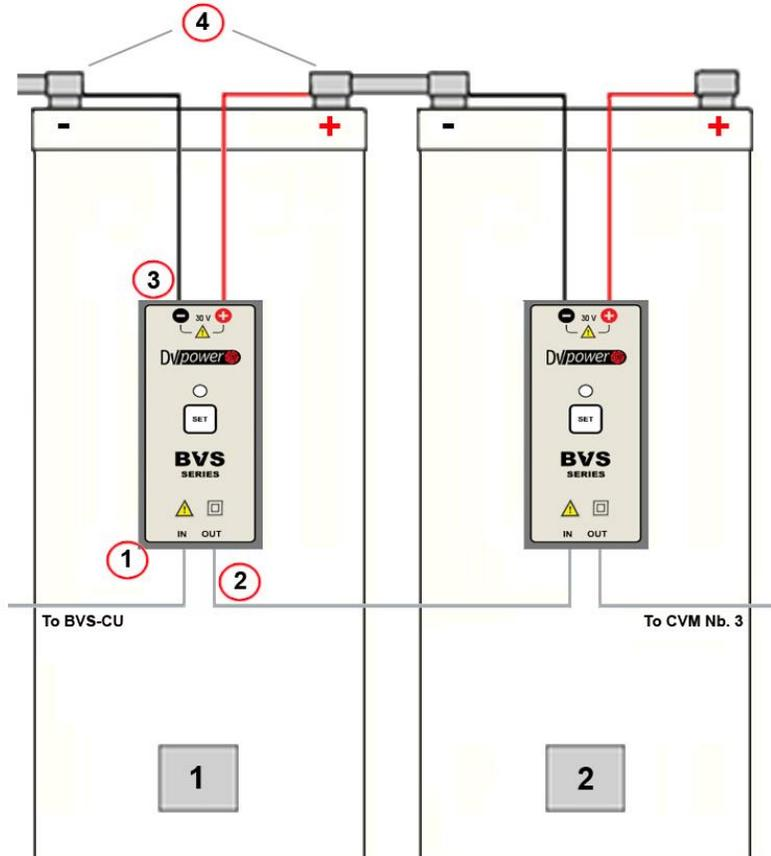

Figure 3-1. Installation procedure for connecting CVM to battery
2. Peel the protective paper from the back of the CVM and place the CVM firmly on a battery surface. Install the first CVM in the battery string, as shown in the figure 3-1 (step 1 in figure 3-1).